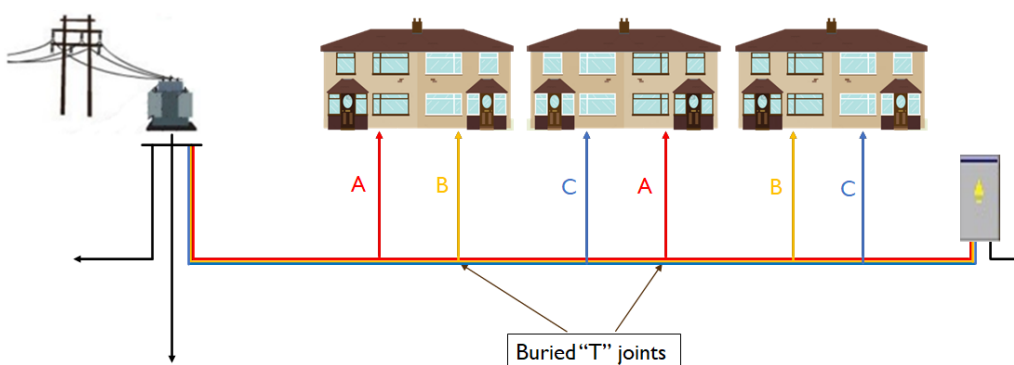

Figure 1.1: Network with consumers fed from underground Tee-joints
- i. the suspect cable cannot be isolated for fault-finding using a surge generator due to the topology of the network. An example of this is a system where individual consumers are fed from underground tee-joints, such as the example in figure 1.1.